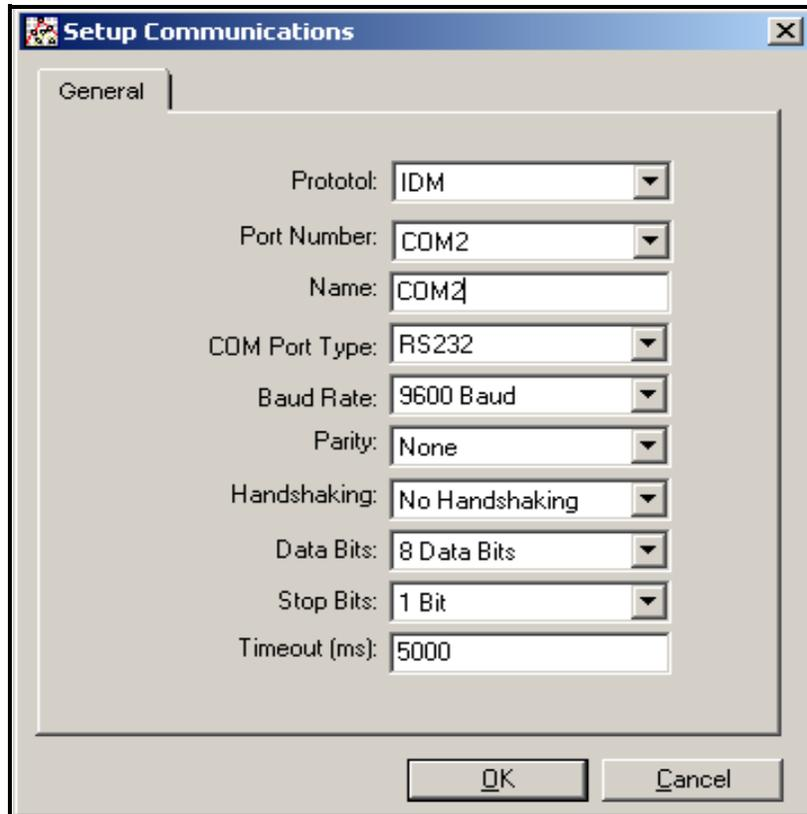

Figure 19: Setup Communications Screen
- Click on the “*Communications Port*” option to select it. The *Setup Communications* screen appears similar to Figure 19.